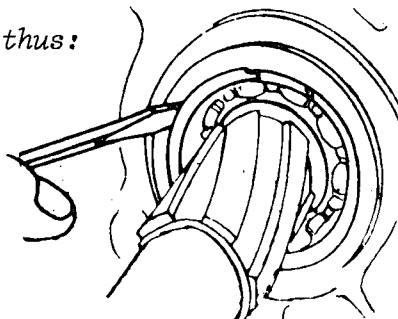

Fig. 5
- a) Remove the snap ring (fig. 5) which holds the shaft to the cover and remove it by tapping the grooved part of the shaft with a plastic hammer.